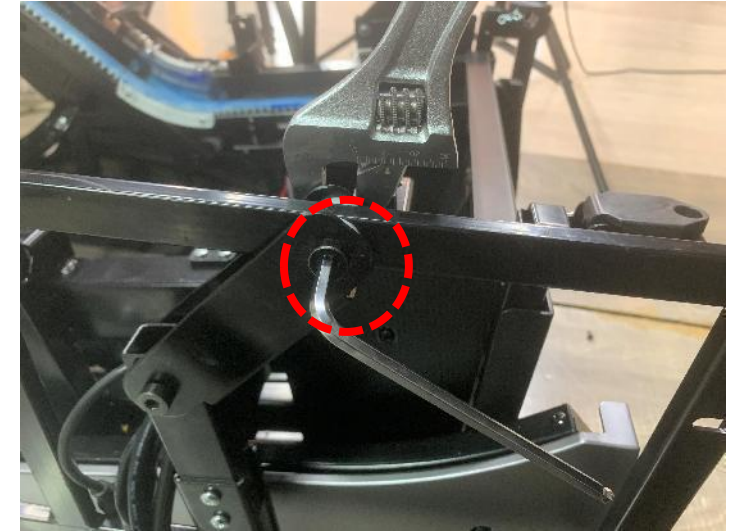

Figure 3
3. Remove the armrest mounting bracket by removing the lower screw with a wrench and No.5 inner hexagon wrench (Figure 3)